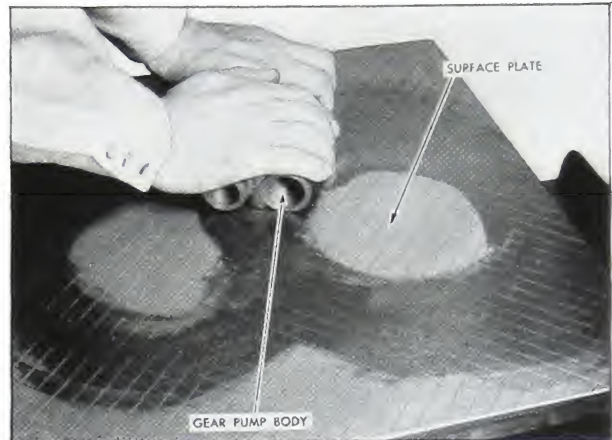

Fig. 5-81. Lapping gear pump bodies
2. Restore uniform gear pocket depth to same dimension as width of gears by lapping bodies on a surface plate. Fig. 5-81.